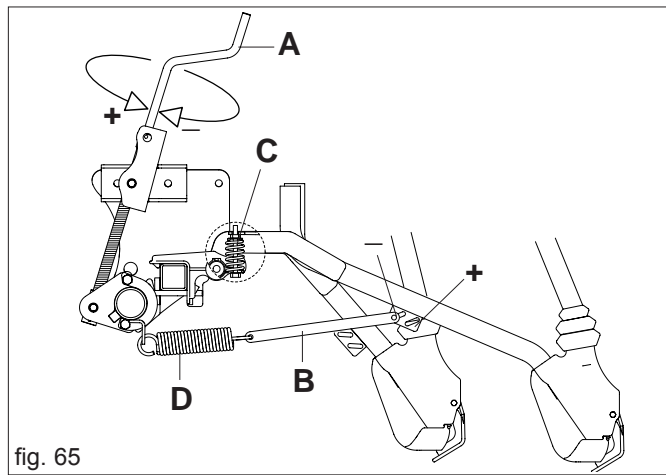
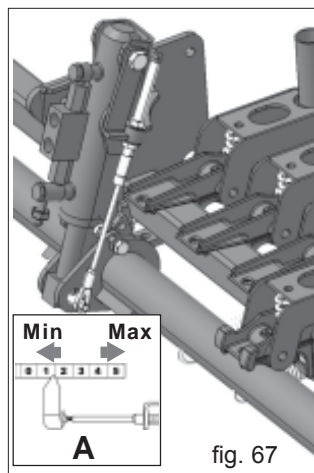

fig. 65
fig. 67
The seeding depth is adjusted simultaneously for all planting devices through a crank (Fig. 65). By rotating it counterclockwise, a stronger pressure can be exerted on the planting devices to the ground by means of the extension springs, thus allowing deeper seeding.
You can further adjust the pressure, separately, changing the position of the tie-rod (B Fig. 65).
Only with hoe coulters there's a spring (C, Fig. 65), which, when completely released, allows to reset the weight of the single spring element (D). In this situation it's possible to make superficial seedings.
On request, the planting unit can be equipped with hydraulic regulation of the pressure of the furrow openers (Fig. 65). This device is fitted in place of the manual adjuster screws and connected through the special hydraulic tubes to the tractor distributor (double effect). The device is operated by moving the lever of the tractor distributor. A pointer on the adjustment scale (A Fig. 67) allows a purely progressive reference to the pressure value of the furrow opener units: